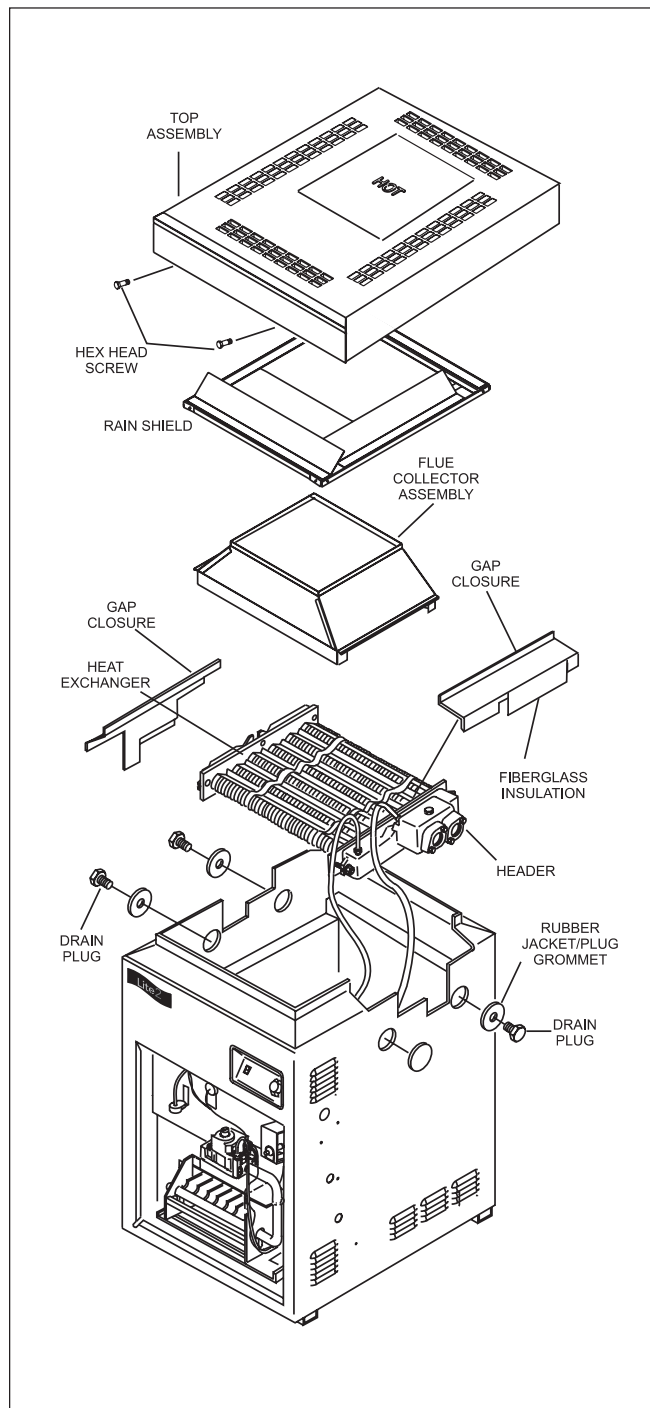
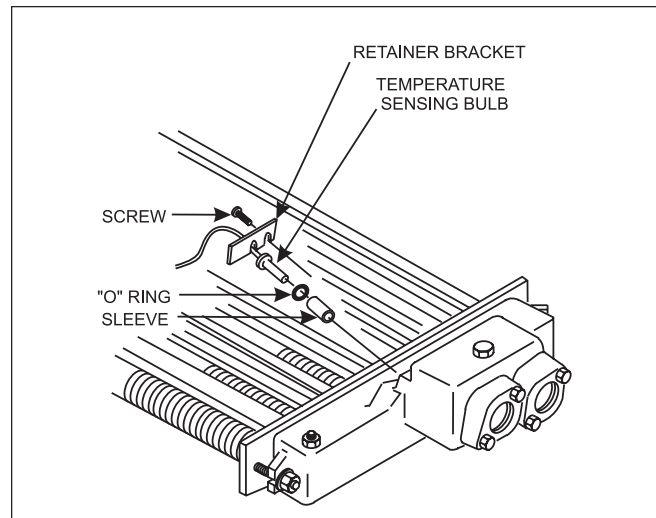
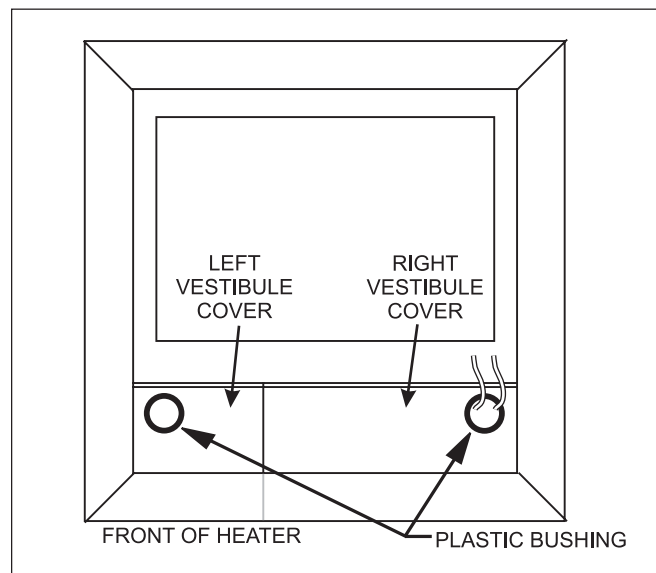

Figure 8. Heat exchanger reversal.
Figure 10. Temperature sensing bulb.
Figure 11. Vestibule covers.
2. Remove all 8 hex-head screws fastening the top and lift the top assembly straight up (see Figure 8).
6. Remove the three rubber jacket/plug grommets and drain plugs (see Figure 8). One is located under the water connections on the right side. The other two are on the left side of the heater.
7. Tag and disconnect the white wire on the pressure switch (PS) and the white wire on the Fireman's switch terminal which leads to the high limit switch.
10. Loosen the screw securing the temperature sensing bulb retainer bracket. Slide the retainer bracket off the bulb flange and remove the bulb from the header (see Figure 10). Pull pressure switch tube through the hole in the vestibule cover and into the vestibule (controls compartment), then pull thermostat bulb assembly through same hole (see Figure 11).